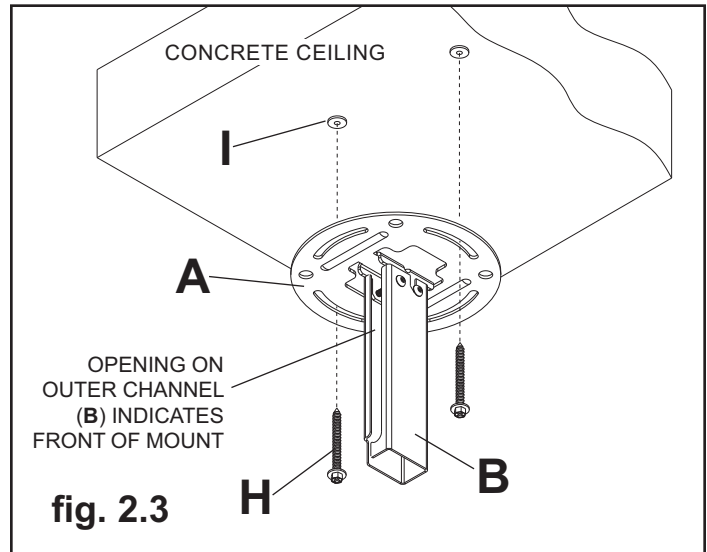

fig. 2.3
Drill two 5/16" (8 mm) dia. holes to a minimum depth of 2.5" (64 mm). Attach ceiling plate (A) using two concrete anchors (I) and two #14 x 2.5" wood screws (H) as shown in figure 2.3. Tighten wood screws (H) until ceiling plate (A) is firmly attached.